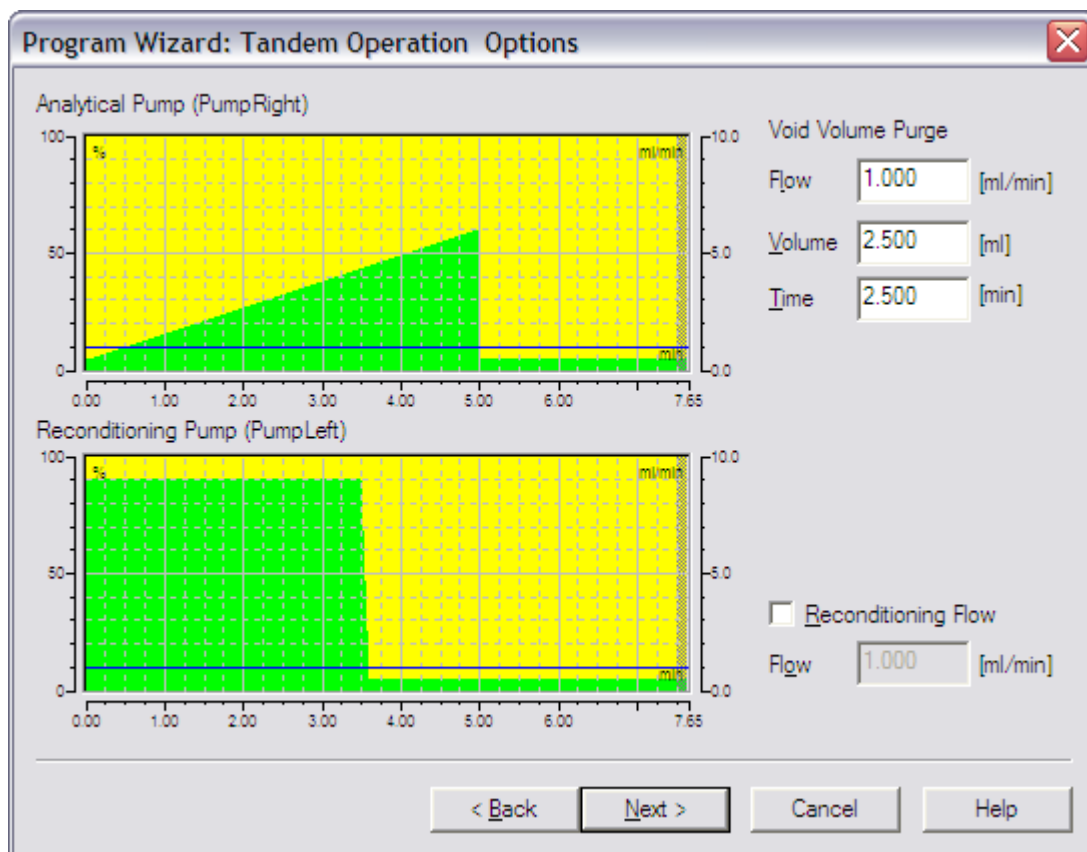

FIGURE 5-9: Program wizard – Tandem Gradient Options continued.
6. Next the **Void Volume Purge** is specified and optionally the **Reconditioning Flow** can be set, as depicted in FIGURE 5-9. Determine the void volume between the pump and switching valve. Purge the related solvent lines 2 to 3 times to make sure that the solvent composition corresponds to the starting composition. After off-line reconditioning has been started, the analytical pump flushes the solvent lines between the pump and the switching valve. The solvent line has to be purged before the switching valve can be switched.